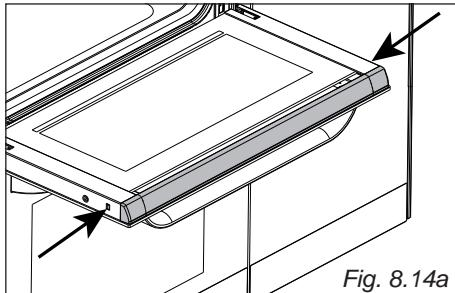
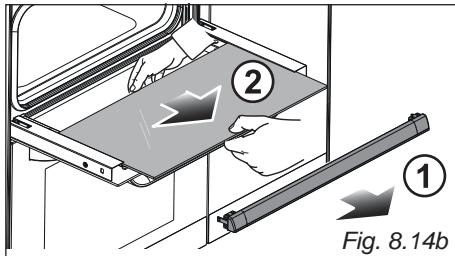

Fig. 8.14a
Fig. 8.14b
- Press the tabs on the sides of the glass retainer which is positioned at the top of the oven door (arrows in fig. 8.14a), then gently remove the retainer (arrow 1 in fig. 8.14b).
- Gently pull out the inner pane of glass (arrow 2 in fig. 8.14b).